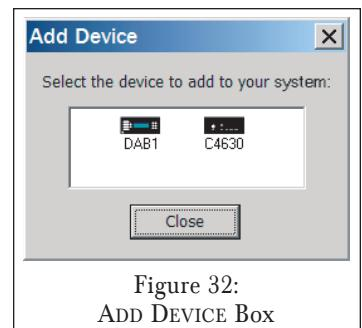
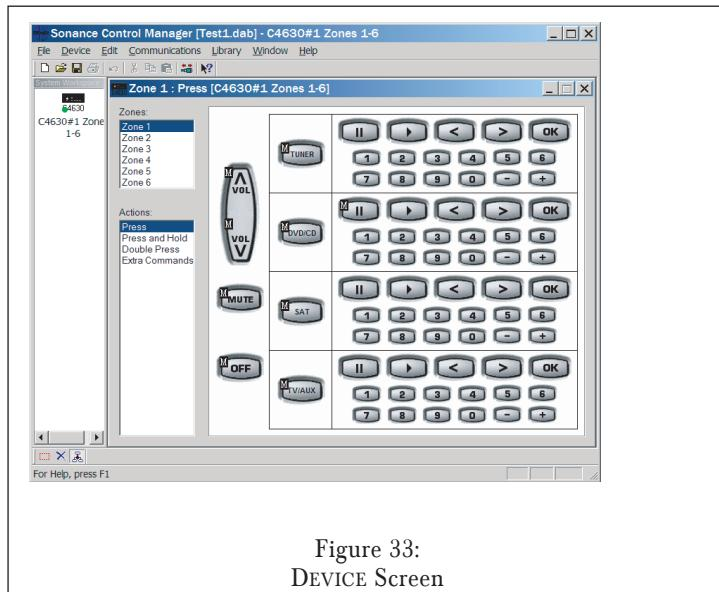

Figure 32:
Figure 33:
3. The ADD DEVICE box (*Figure 32*) will appear. Select C4630 SE. The DEVICE screen (*Figure 33*) will appear.